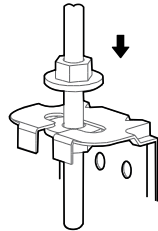

Figure 6
- Once the position and level of the unit is adjusted, use the nuts on the mounting hooks to secure the air conditioner (see Figure 6).